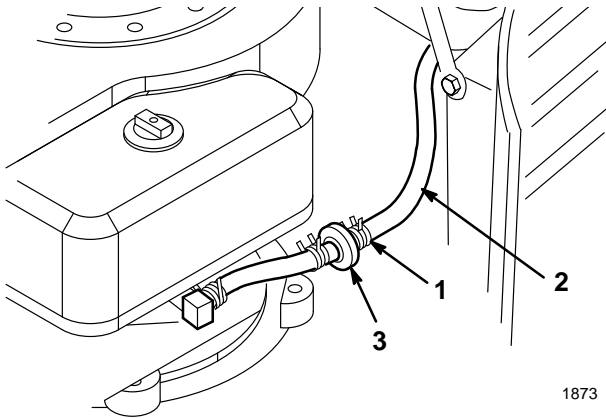

Figure 24
- Squeeze the ends of the hose clamp together and slide it up the fuel line toward the fuel tank (Fig. 24).
- Pull the fuel line off the filter (Fig. 24) and allow gasoline to drain into a gas can or drain pan.
The best time to replace the fuel filter (Fig. 24) is when the fuel tank is empty. Never install a dirty filter if it is removed from the fuel line.
3. Squeeze the ends of the hose clamps together and slide them away from the filter (Fig. 24).